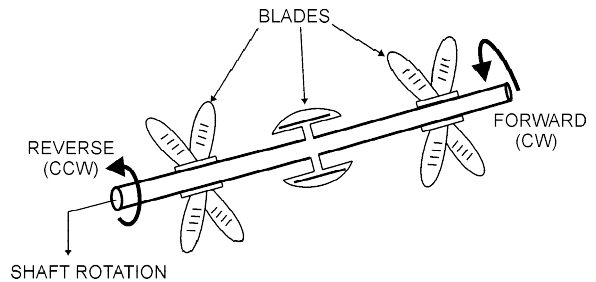

**Figure 30. Accumulator Pressure Gauge**
5. The **Accumulator Pressure Gauge** (Figure 30) should read approximately 1750 pounds per square inch (psi).